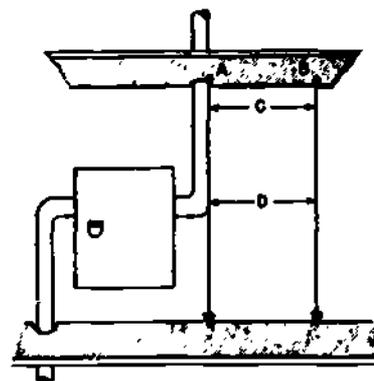

Figure 1-128. Use of Plumb Bob
d) To plumb a structural member, or a pipe, in the plumbing system, secure the plumb line A, as in Figure 1-128, so that you can see both the line and the piece behind it. Then, by sighting, line up the member or pipe with the plumb line. If this cannot be done, you may have to secure the plumb line at some point such as B and then measure the offset from line to pipe at two different places. For instance, lengths C and D should be the same; if not, the pipe is not plumb.